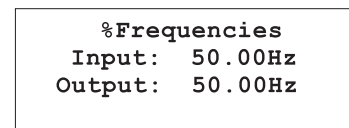

Fig 5-18 Frequency Status Screen
- ❑ 4. Press the down arrow key to scroll to the frequency status screen. See figure 5-18. Verify that the input frequency is approximately 50 Hz.